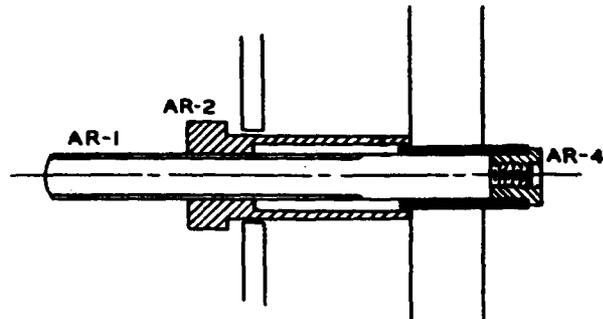

Fig. 22
(11) Insert the tell tale shaft in its bearing, mount the Std. 3270-D-14 gear on it and tighten the set screw of the gear. Check that the shaft turns freely. If it doesn't turn freely it may be that the hub of the gear is up against the edge of the bearing too tightly. Shift the position of the gear on the shaft slightly to overcome this.
(12) Any shims that fell out from between the tell tale casting and the secondary gear support casting in (6) should be reinserted now. Tighten up slowly on the two screws holding these two castings together, and while doing this shift the position of the secondary gear support casting as necessary to obtain proper meshing of the tell tale pinion gear with the Std. 3270-A-99 gear. When the two castings are securely fastened together the gears should turn smoothly without binding. If there is any bind loosen slightly the two casting holding screws and shift the position of the secondary gear support casting a small amount as necessary to overcome the bind and then tighten the screws securely. It may be necessary to add a thin shim between the two castings.
(13) The Std. 3270-D-14 gear and the tell tale shaft must be removed from the tell tale casting before the casting can be mounted on the controller, but do not mount it at this time as the cam shaft has to go in place first.
(14) **Tell Tale Shaft Bearing for Early Model of Controller where Bearing is in Main Frame Casting:** To remove a tell tale shaft bearing from the main frame casting use the bearing removal tool shown in Fig. 22. The three parts of this tool assembly are marked AR-1, AR-2 and AR-4. Assemble them in the bearing as shown so that when AR-2 is tightened the bearing will be drawn into the recess of AR-2.